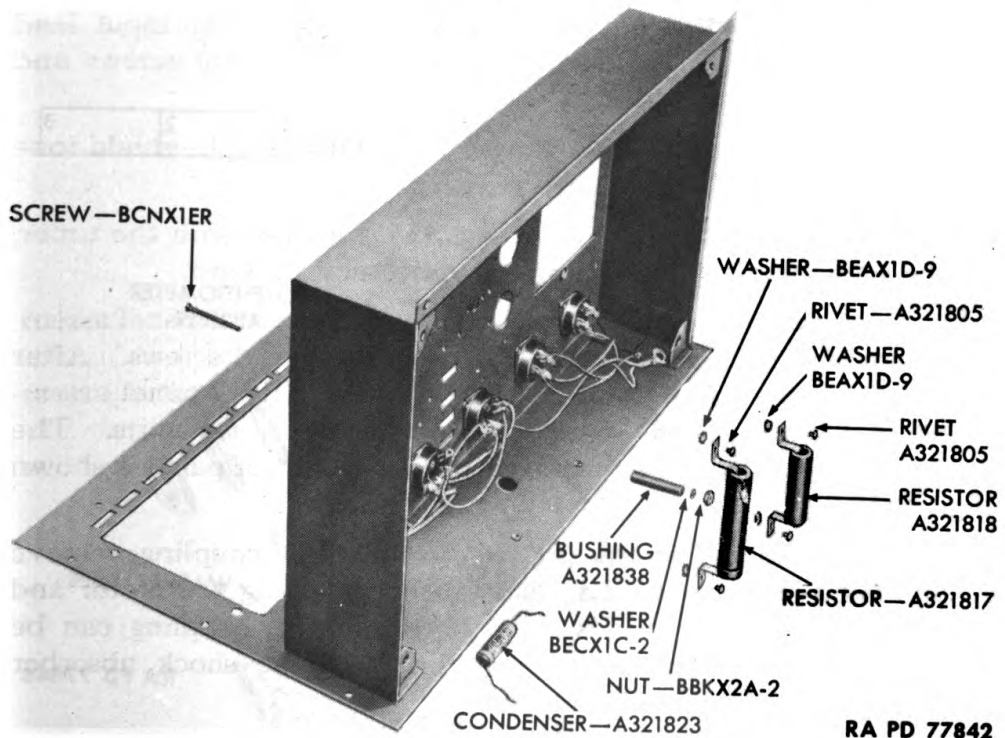

Figure 23 — Removal of Resistors and Related Parts From Amplifier
(18) Unsolder the connecting leads of condenser A321823 (fig. 23) to remove it from the potentiometer assemblies. Drive out the rivets and remove the lock washers to remove the resistors A321817 and A321818.